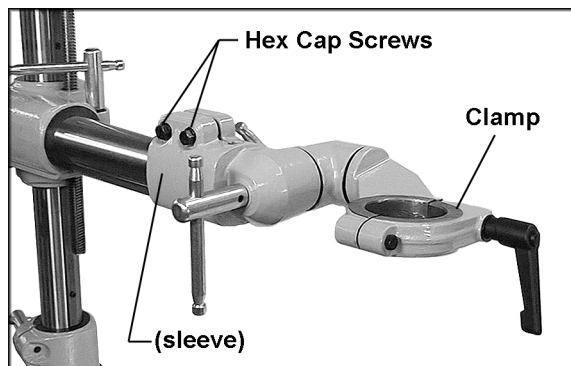
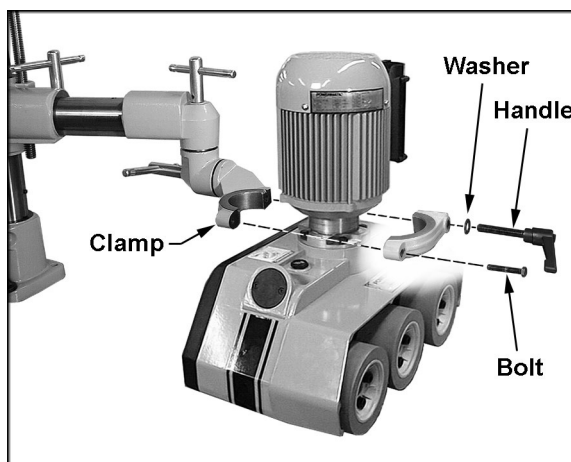

Figure 8
Figure 9
14. Place the sleeve of the over arm cone assembly onto the over arm as shown in Figure 8. Loosen further the two hex cap screws if needed. Push the cone assembly onto the over arm as far as it will go.
15. Tighten the two hex cap screws (Figure 8) with a 14mm wrench.
17. Mounting the feeder body may be easier if you loosen the two hex cap screws (shown in Figure 8) and rotate the over arm cone assembly so that the clamp is toward the bottom, as shown in Figure 9. Loosen the handles and rotate the cones as needed to get the clamp in position. Re-tighten the screws and handles before mounting the feeder body.
18. Unscrew the bolt and the handle (Figure 9) from the clamp, and remove the outer half of the clamp.
The handle (Figure 9) is adjustable. To tighten it, rotate the handle clockwise, then lift out on the handle, rotate it counterclockwise on the pin and release it, making sure it re-seats itself on the pin. Continue this procedure until tight. (This adjustable feature allows the handle to be re-positioned at any time while remaining tight.)